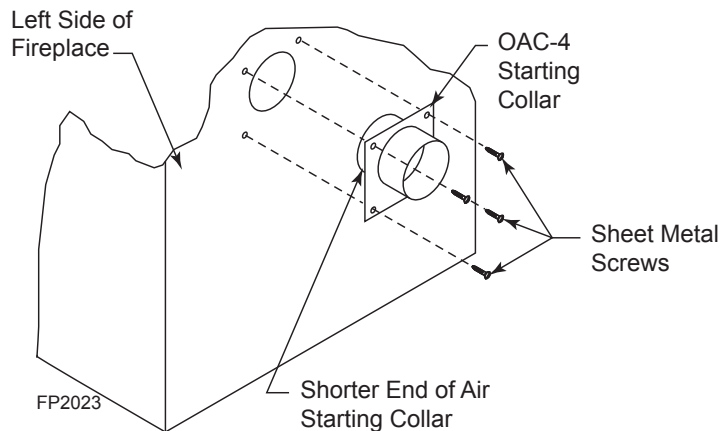

Figure 11 -
2. Place starting collar (4") into hole on left side of fireplace. Fireplace shortest side of air starting collar through fireplace outer wrap. Fasten starting collar in place with four (4) sheet metal screws provided. *Figure 11*